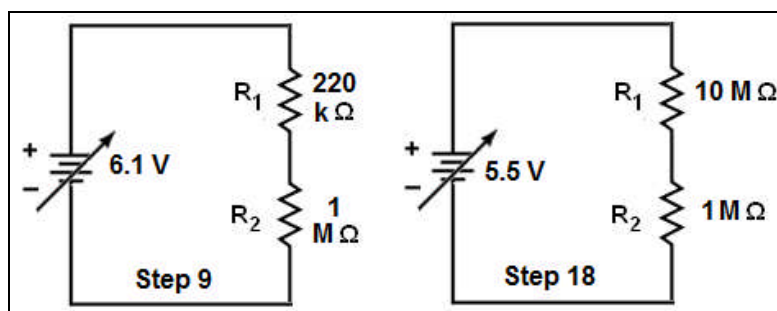

Fig. 2-2 Voltmeter Loading Demonstration
7. Measure the voltage drop across the terminals marked 1 and 2 of the 1K potentiometer (Fig. 2-2).
9. Connect the circuit (Fig. 2-2).